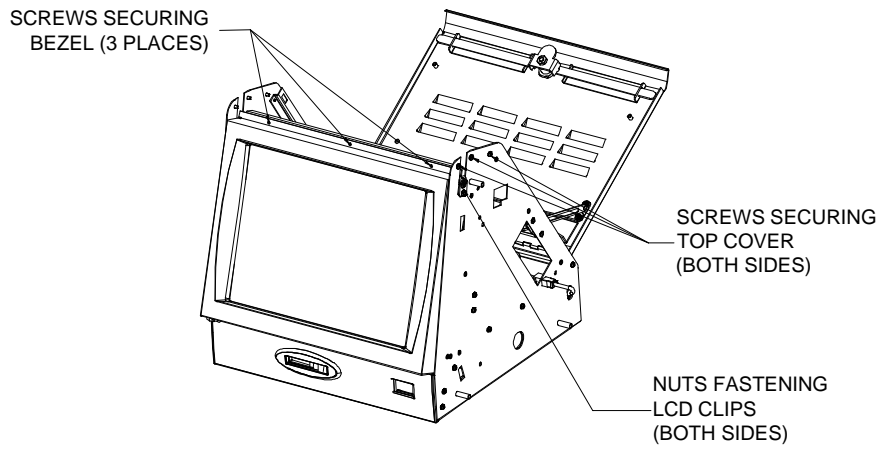

FIGURE 7 - FORCE ELITE - FRONT BEZEL REMOVAL
7. Remove the 3 screws at the top of each side piece fastening the top cover to the game (see Figure 7) and remove the top cover.
8. Loosen the 5/16" nuts securing the 2 LCD clips (one on each side piece). See Figure 7.
10. Remove the 3 screws on top of the front bezel (see Figure 7) and separate the bezel from the monitor.
16. Reattach the front bezel to the monitor with the 3 screws removed earlier. See Figure 7.
18. Tighten the nuts securing the 2 LCD clips. See Figure 7.
in the screw hole closest to the rear of the game. See Figure 7.